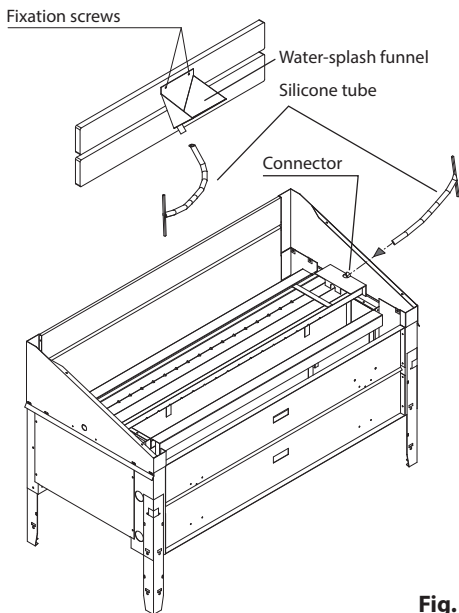

Fig. 6
7. Install the water-splash funnel (Abb. 6)